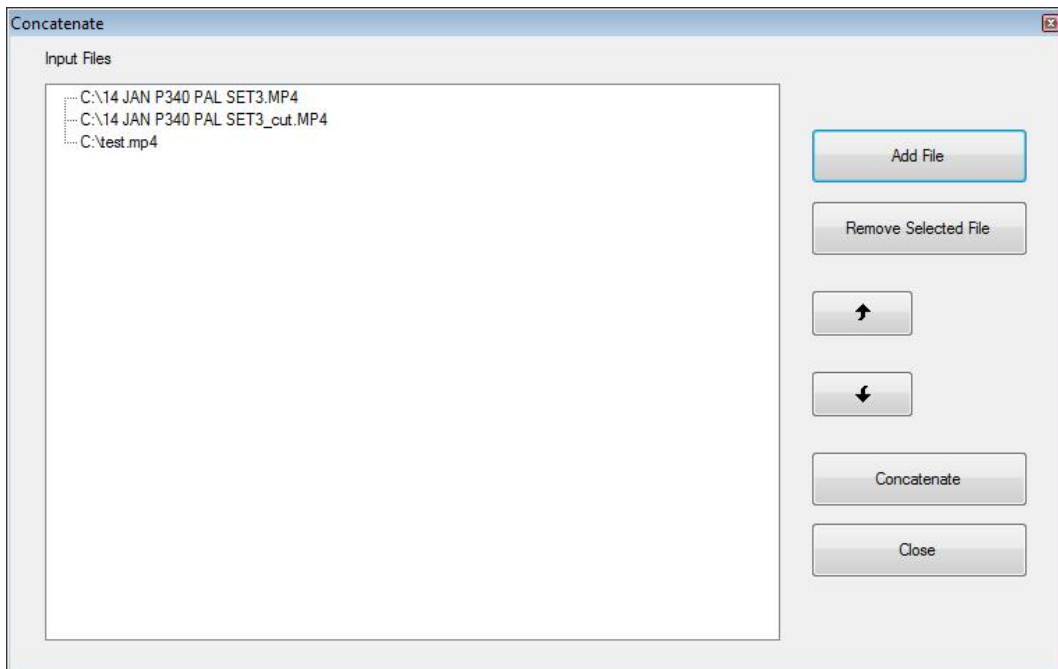

Figure 6.4 Concatenate window
1. Press the **Concatenate** button: the Concatenate window will appear (see Figure 6.4).